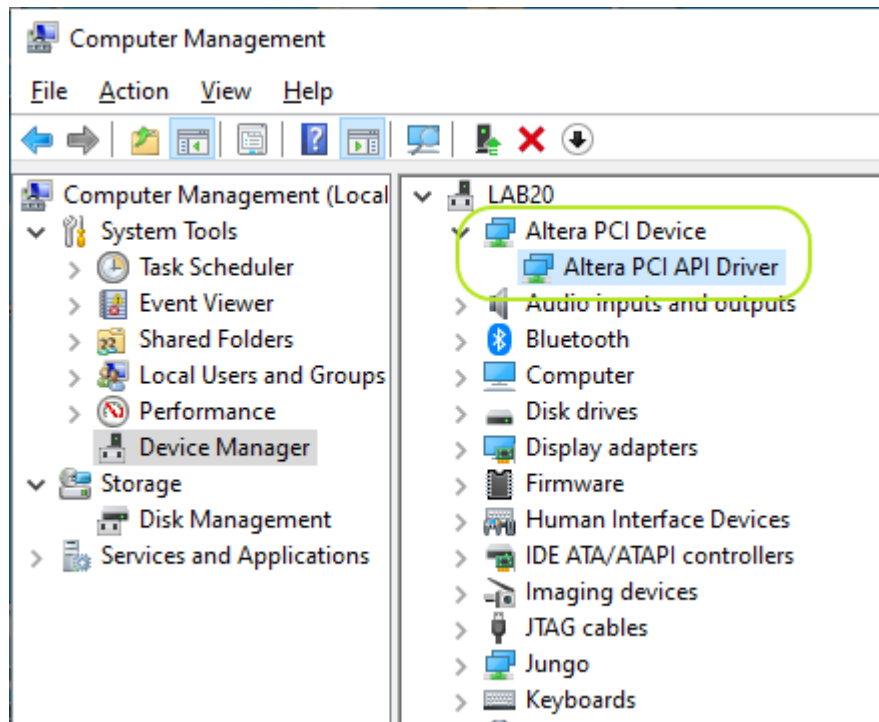

Figure 7-8 Altera PCI API Driver in Device Manager
10. Once the driver is successfully installed, users can see the **Altera PCI API Driver** under the device manager window, as shown in Figure 7-8.